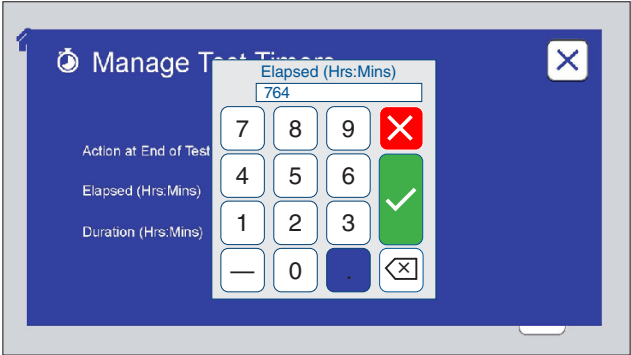

Figure 11.5e: Enter the desired hours and minutes. Touch the check mark to save, or the X to cancel changes.
- o Set the duration in hours and minutes for the current test (Figure 11.5e).